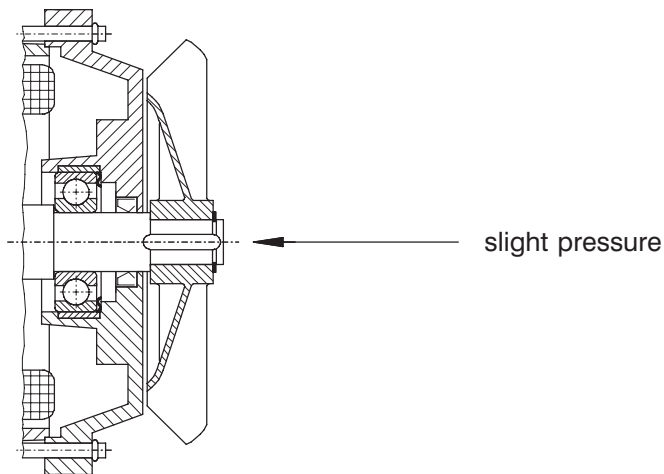

Figure 6.8.2–2: Pressure on motor shaft
- 6) Ease the overstress on the bearing by lightly pressing the shaft end by hand, see figure 6.8.2–2 “Pressure on motor shaft”.